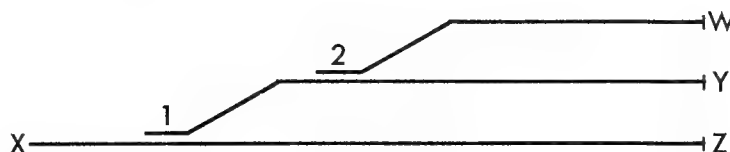
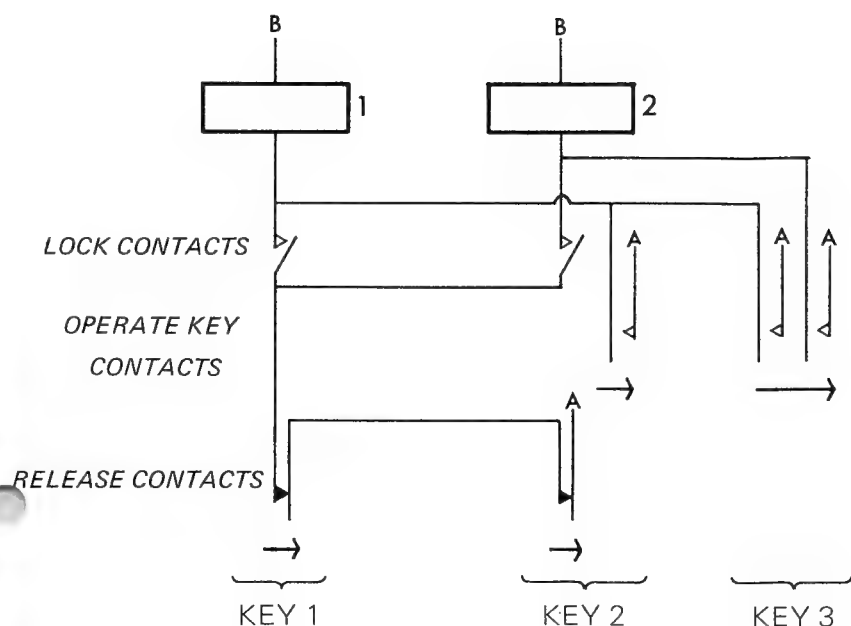

Fig. 4
Fig. 6
As will be seen in Fig. 4 for a train to proceed from position X to position Z, point 1 has to be in the normal position. To proceed to position Y, point 1 should be reversed and point 2 normal and to proceed to position W, point 1 and point 2 have to be reversed. In fig. 5 using two-coil motors, key 1 sets the road for X to Z, key 2 sets the road from X to Y, and key 3 sets the road from X to W.
If key 3 is operated both motors 1 and 2 are reversed and the train can proceed from X to W. These operations of the point motors satisfy the route setting requirements of Fig. 4.
Back again to Fig. 4. We find that to proceed from X to Z, point 1 must be normal (that is the motor is not energised). To go from X to Y, the point 1 must be reversed by energising the motor and so that it does not release when the key is released and springs back, a lock circuit is provided by the motor's own contacts. To go from X to W, both points 1 and 2 are operated and locked by their own contacts. Fig. 6 is the circuit for this type of motor and the upper (on the drawing) contacts of the key are the operate contacts while the lower (on the drawing) contacts of the key are the release contacts. It should be noted that in Fig. 6, all the lock circuits are open circuited when either key 1 or 2 are operated. This is to prevent motor 2 from being energised when it is unnecessary. When a key is moved and some contact sets are to open while others are to close, it is assumed that the opening contacts will not open before the others close, or to put it into jargon, the contact sets will be "make before break." If the contacts on your keys do not operate in this way then a gentle bend of one set with a pair of pliers will usually fix this.